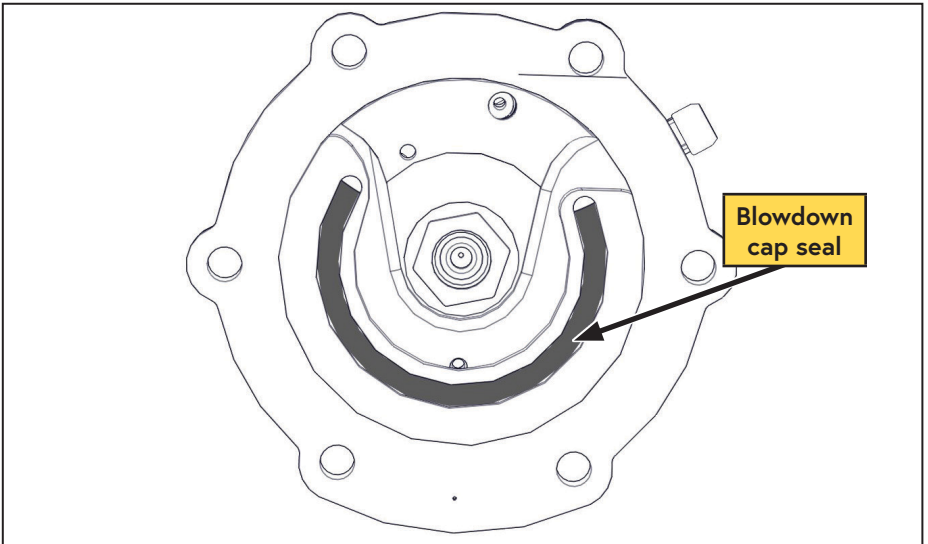

Figure 36 — Rear cap seal
- Install the Blowdown cap seal in the blowdown cap (Figure 36).